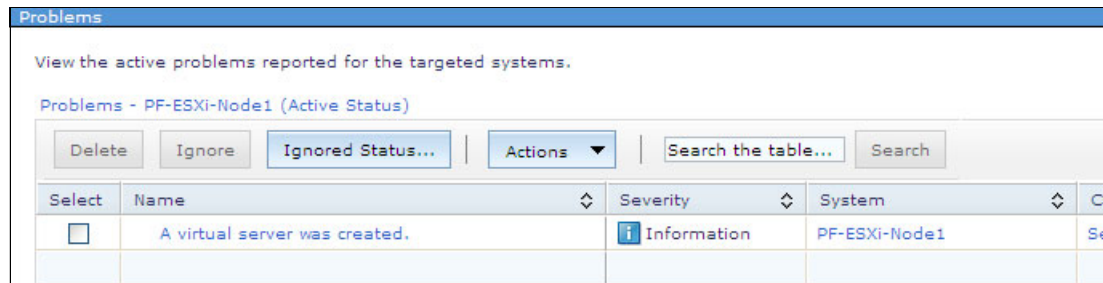

Figure 11-17 Virtual server creation informational event in the Problems window
17. An informational event about the virtual server creation is displayed as shown in Figure 11-17. Similar informational events are also displayed under PF-vCenter01 because the virtual server was created on a host that is managed by PF-vCenter01.